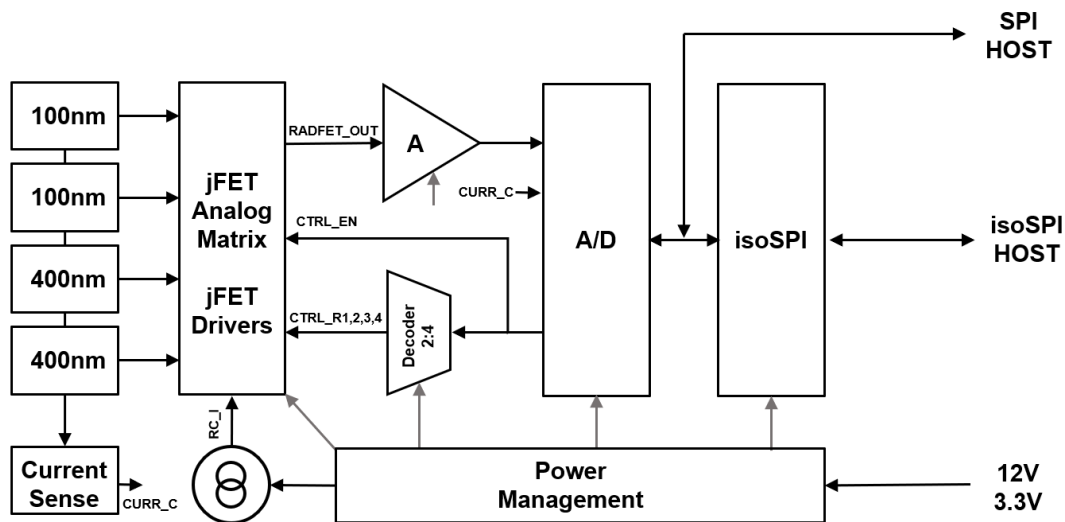

Figure 2: VT-DRM(S) schematic diagram.
The schematic diagram of the VT-DRM(S) module is shown in Figure 2.